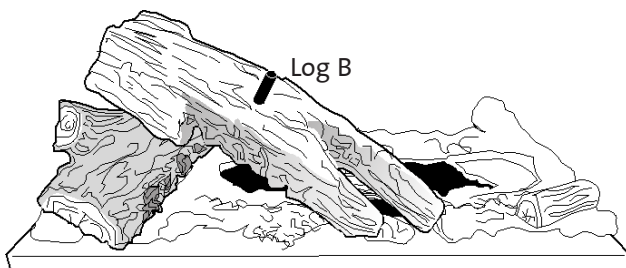

Figure 40. Engage Log B with Log A.
3. Engage Forked Log B with the pin on Log A and position as shown in Fig. 40.